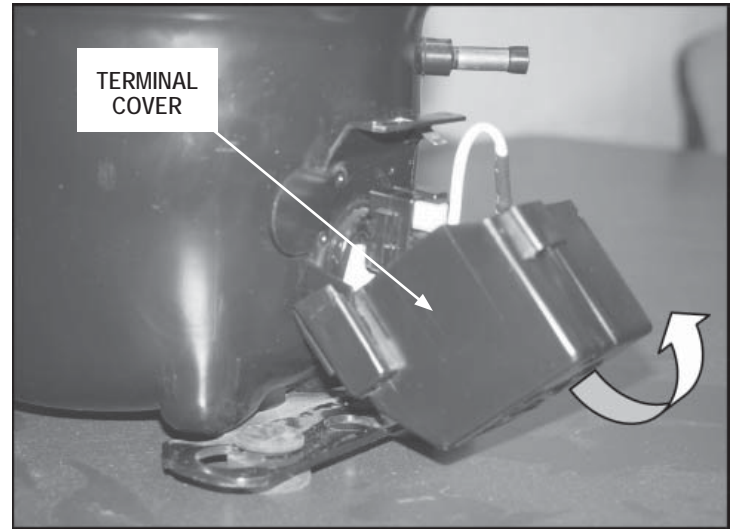

Figure 6
10. Install new terminal cover. Be sure to insert the group of wires including the entire jumper into the provided slot on the terminal cover. Engage the bottom of the cover first and then push the cover upward while snapping in place (See Figure 6).